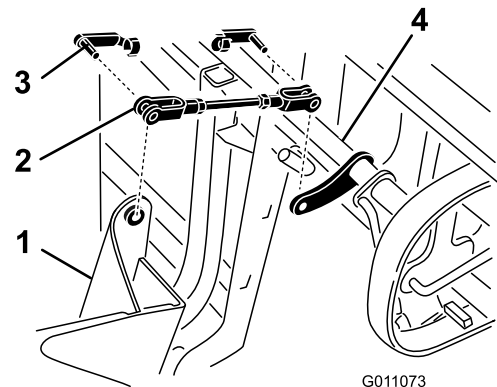

Figure 13
9. Install the yokes to the bagger assembly and handle and secure it with 2 clevis pin springs (Figure 13).
10. Rotate the bagger handle linkage up to the bagger assembly and secure it with a clevis pin spring (Figure 13). Loosen and rotate the yoke if needed to align with the bagger assembly.